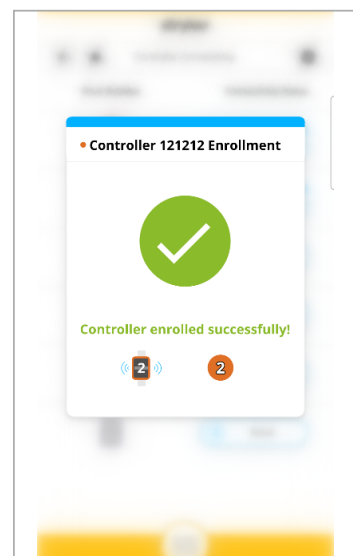

Figure 20
- When the QR code is successfully captured, the screen will display the enrollment progress. **(Figures 17-19)** Upon successful enrollment, the app will display a verification message **(Figure 20)** and play a tone.